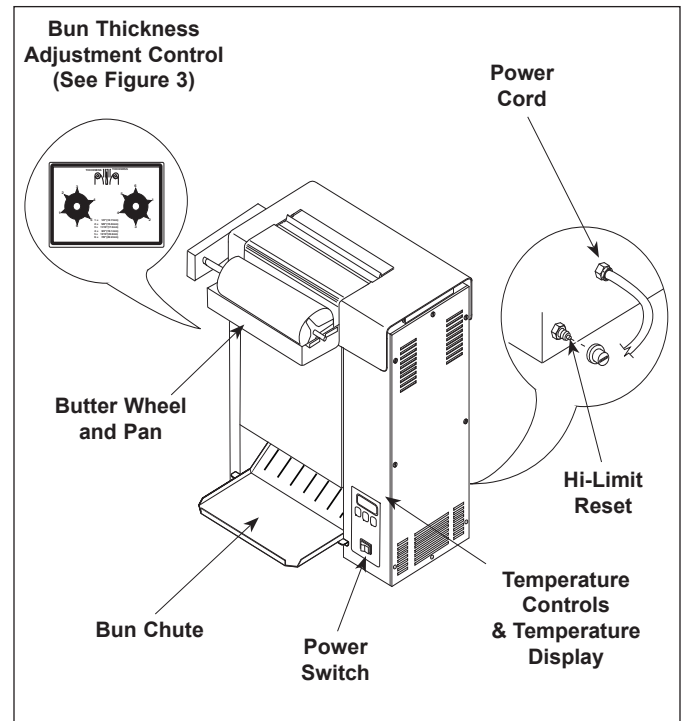

Figure 3. VCT-2000 Toaster
1. Set the Bun Thickness Adjustment Controls (Figures 3 and 4) to desired setting.
5. Toasted buns drop onto the Bun Chute (Figure 3).
A Hi-Limit Control turns off power to the unit if it overheats. To reset the control, allow the unit to cool, then locate the Reset Button at the rear of the unit. Remove the black protective cap, press the Reset Button, and reinstall the protective cap (Figure 3).